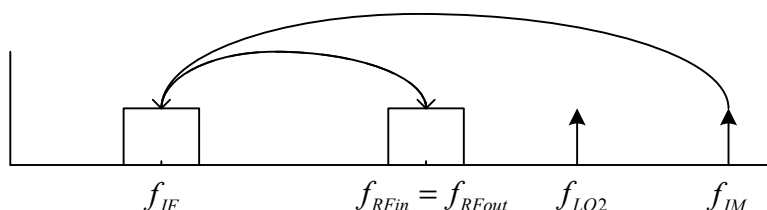

Figure 3.- Frequency conversions between local oscillator signal, RF signal and IF signal.
- Local oscillator (LO2): its frequency depends on the relations (Figure 3):